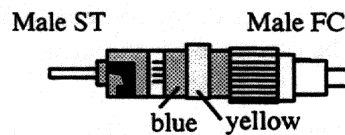

Figure 6-17 Multi-Mode ST to FC Adaptor, Male ST to Male FC.
4. *Multi-Mode Fiber ST to FC Adaptor.* The multi-mode ST to FC adaptor shown in Figure 6-17 has a male ST connector on the other end, a male FC connector on one end, and a blue body with a yellow band labeled "62.5/125" in the center. (Referred to as "M" in cable diagrams beginning with Figure 6-21.)